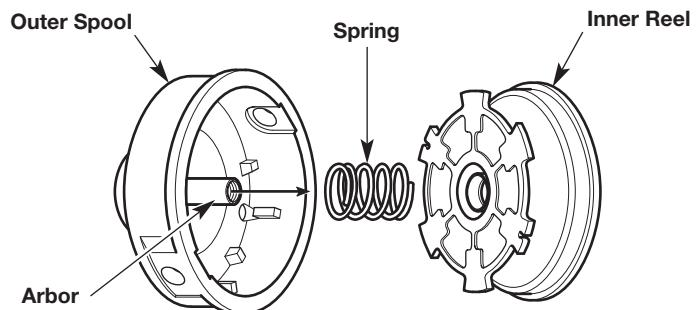

Fig. 28
2. **NOTE:** The outer spool (Fig. 28) will remain attached to the unit.
4. Remove the inner reel from the outer spool (Fig. 28).
5. Remove the spring from the inner reel (Fig. 28).